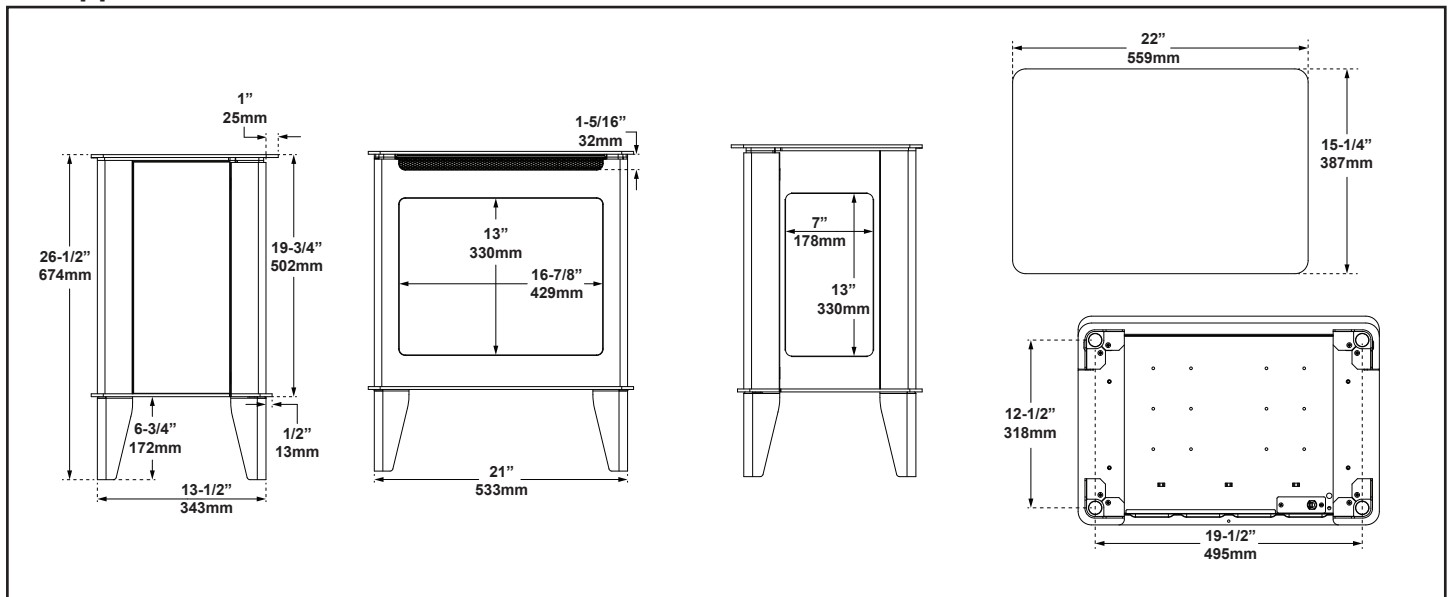

Figure 3.1 - Appliance Dimensions
- See Figure 3.1 for appliance dimensions and to determine location of appliance installation.